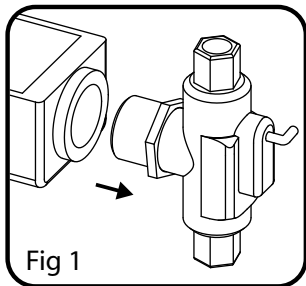
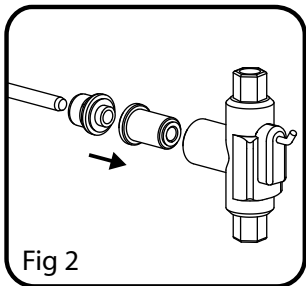

Fig 1
Fig 2
1. Remove fluid end (9) from pump housing **[FIG 1]**
3. Remove lock nut (5) from the fluid end and install on the adaptor body (6)
4. Install seal assembly (7 & 8) and plunger (2) in fluid end (9) **[FIG 2]**